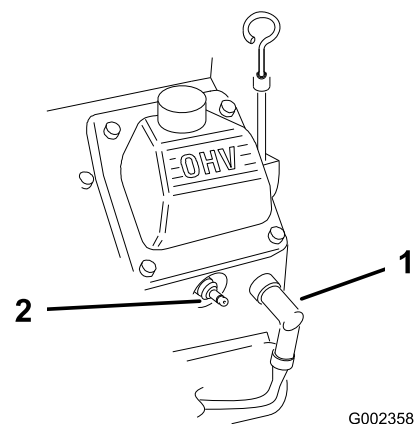

Figure 41
3. Disconnect the wires from the spark plugs (Figure 41).
3. Connect the wires to the spark plugs (Figure 41).